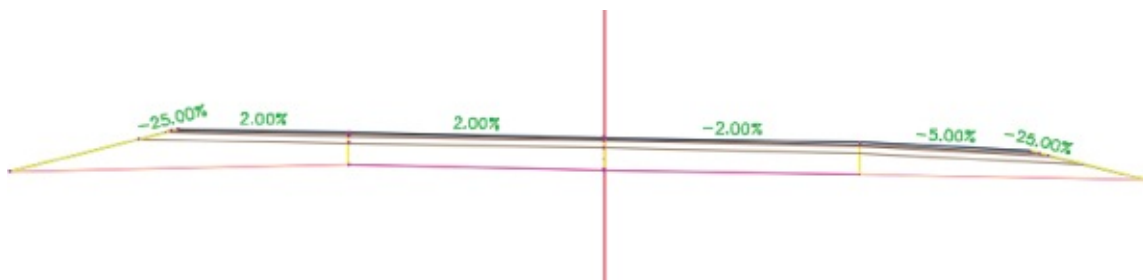

Figure 11.4 Reverse Crown (RC), where the outside lane becomes planar with the inside lane
Reverse Crown (RC) The outside lane becomes planar with the inside lane matching slope (normal), as shown in Figure 11.4. This occurs in the Transition In region as well as the Transition Out region in the runoff distance.